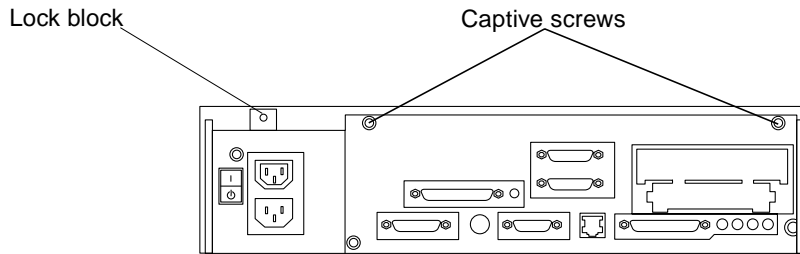

FIGURE 2-2 Location of Lock Block
1. Use a Phillips screwdriver to remove the lock block (if installed) on the cover (FIGURE 2-2).
2. Use a Phillips screwdriver to loosen the captive screws securing the cover with a Phillips screwdriver. (FIGURE 2-2).
5. Replace the lock block with a Phillips screwdriver (FIGURE 2-2).